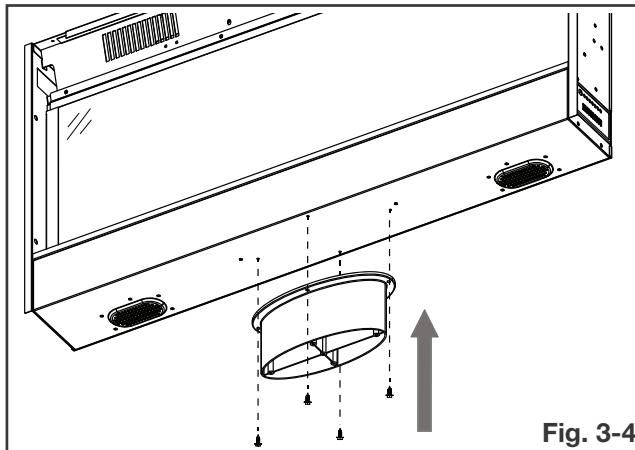

Fig. 3-4
- D. Align the center stand piece to the bottom holes and secure it into the appliance using the screws previously removed in step D (**Fig. 3-4**).